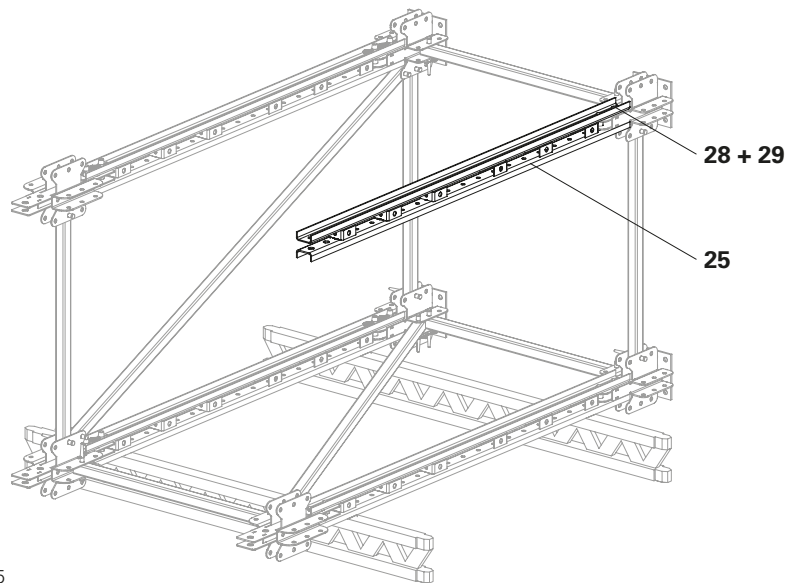

Fig. A1.15
2. Fix Steel Waler 262 (**25**) to the Prop Base ATS (**1**) using 2x fitting pins Ø 32 (**28**) respectively and secure with cotter pins 5/2 (**29**). (Fig. A1.15)